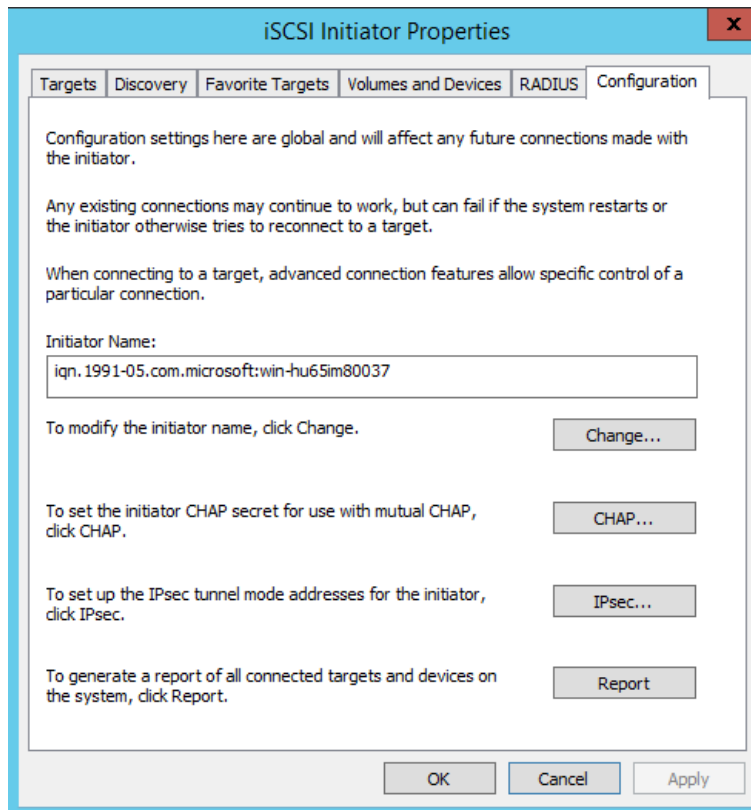

Figure 10-1. iSCSI Initiator Properties, Configuration Page
- b. On the Configuration page (Figure 10-1), click **Change** next to **To modify the initiator name**.